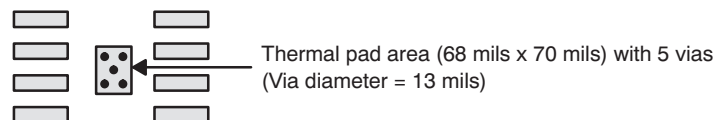

Figure 48. PowerPAD PCB Etch and Via Pattern
1. Prepare the PCB with a top side etch pattern as shown in Figure 48. There should be etch for the leads as well as etch for the thermal pad.